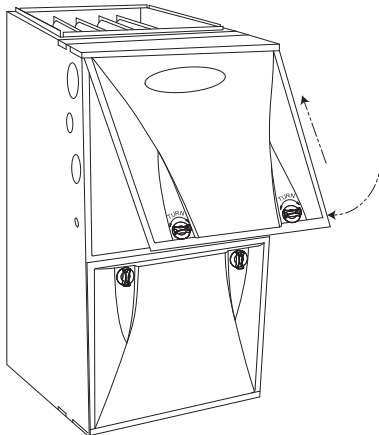

Fig. 13 – Furnace Door Replaced (Upflow Configuration)
- Replace main furnace door. See Fig. 13.
6. Replace main furnace door. See Fig. 13.